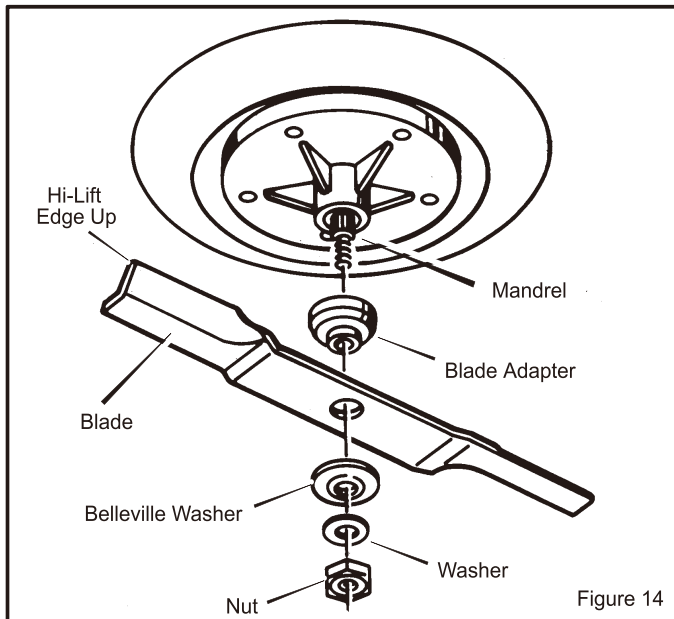

Figure 14
3. Remove the **nut** that holds the blade (Figure 14).
6. Mount the **blade** and **blade adapter** on the **mandrel** (Figure 14).